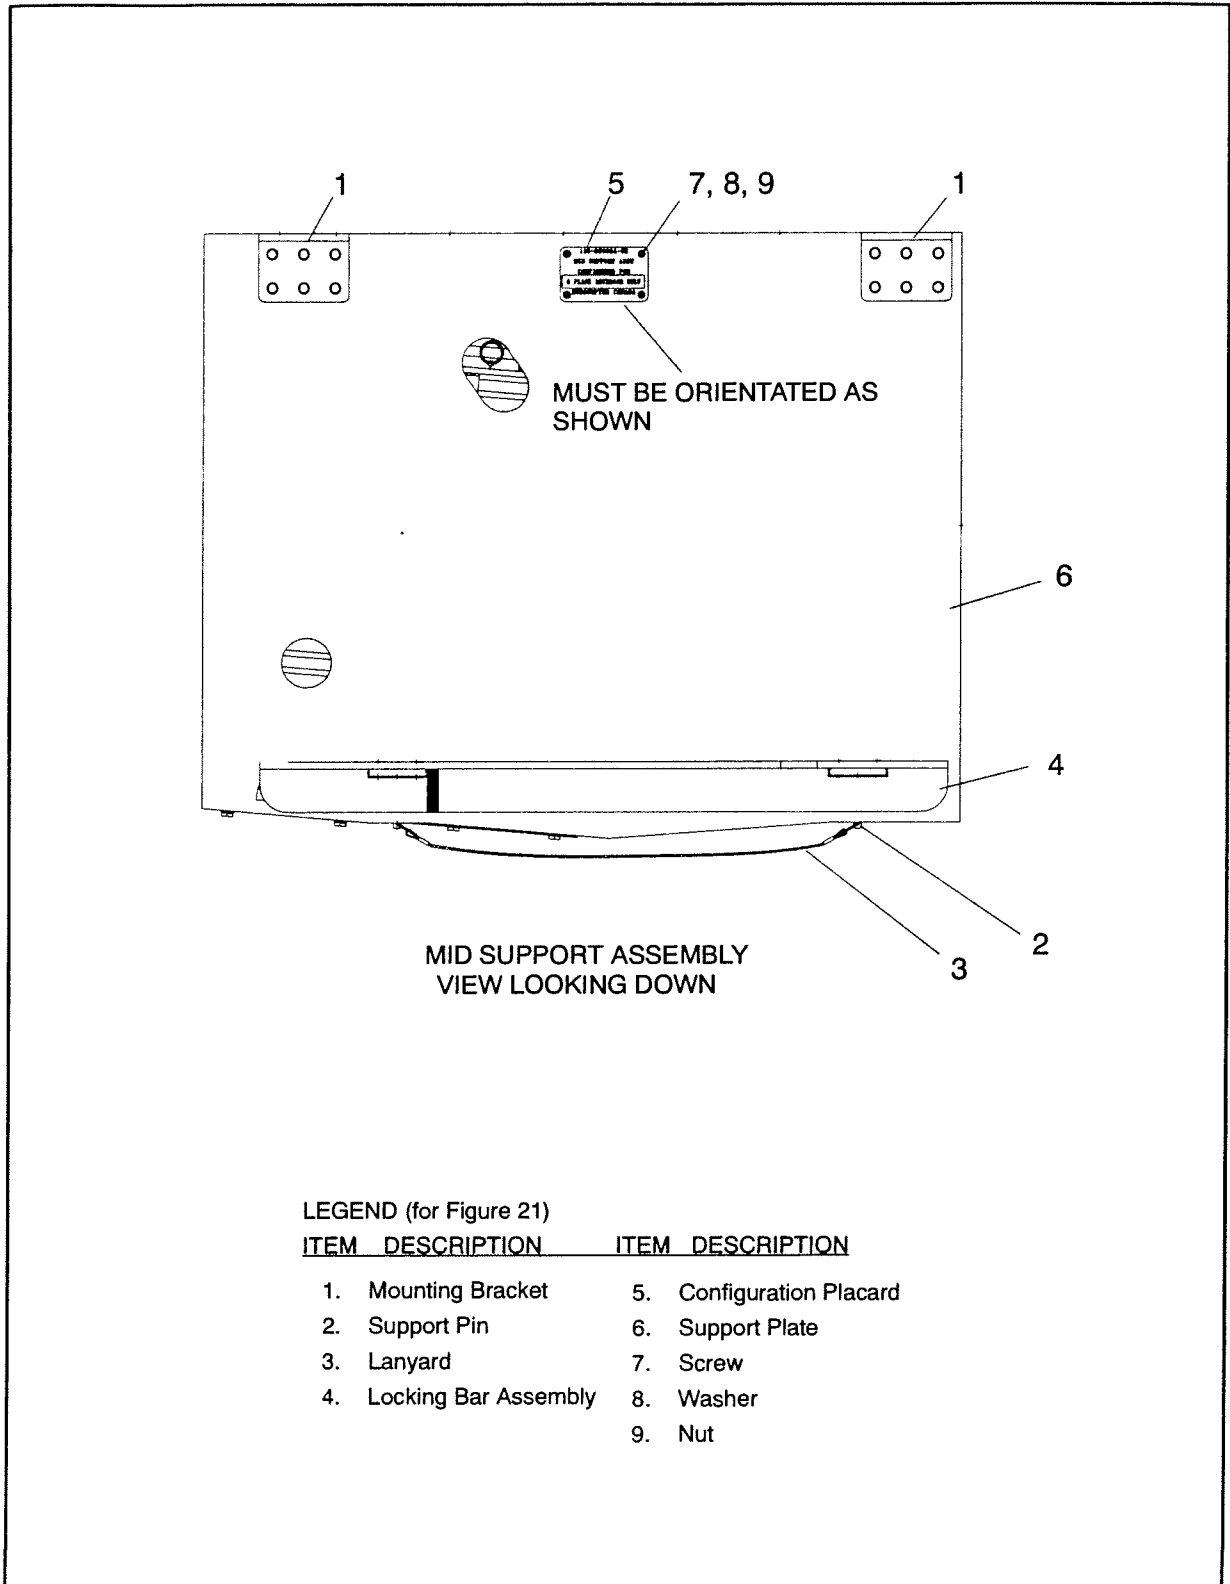

Figure 21 MID Support Assembly, 8 Place Interior
- 13) Install the bolts (5) and washers (8) (4 places) through the RH beam fitting (4) and the RH support beam (2).
- 14) Install the washers (8) and nuts (9) (4 places).
- 15) Remove the nuts (9, Figure 21), washers (8) and screws (7) (4 places) that secure the 8 place configuration placard (5) to the MID support assembly.